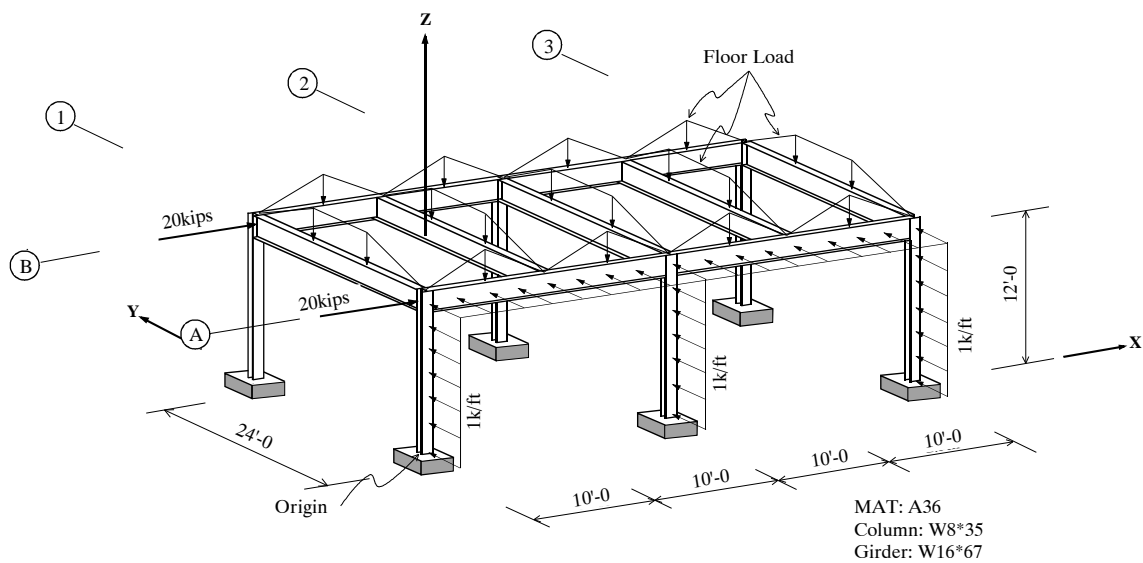

Figure 1.1 3-D Simple 2-Bay Frame
The structural shape and members used in the 3-D simple 2-bay frame are shown in Fig. 1.1. To simplify the example, consider the following 4 load cases.
Assign the GCS X-Z plane containing the grid ① as UCS x-y plane to enter the 3 columns and 2 beams of the structure (Fig.1.1), by using  **X-Z** (or **Geometry > User Coordinate System > X-Z Plane** in the **Menu** tab of the Tree Menu).